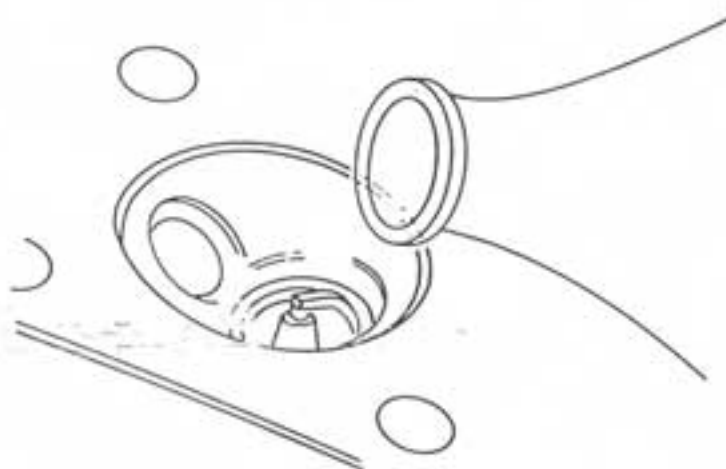

Fig. 1
- Refit the spark plug and check the decompressor valve for leakage by pouring fuel in the combustion chamber (fig. 1).